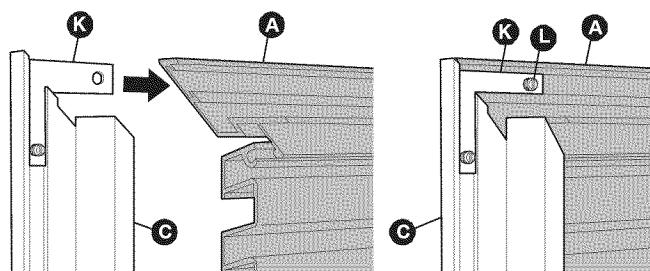

Figure 5
- Join each side trim (B and C) to the top trim (A). Make sure the ends of the Grill Assembly are captured in the channel of each side trim, then tape in place. Gently secure brackets (K) to top trim (A) by tightening set screws (L), only until snug to avoid dimpling the trim face. **DO NOT OVERTIGHTEN**. See Figure 5.